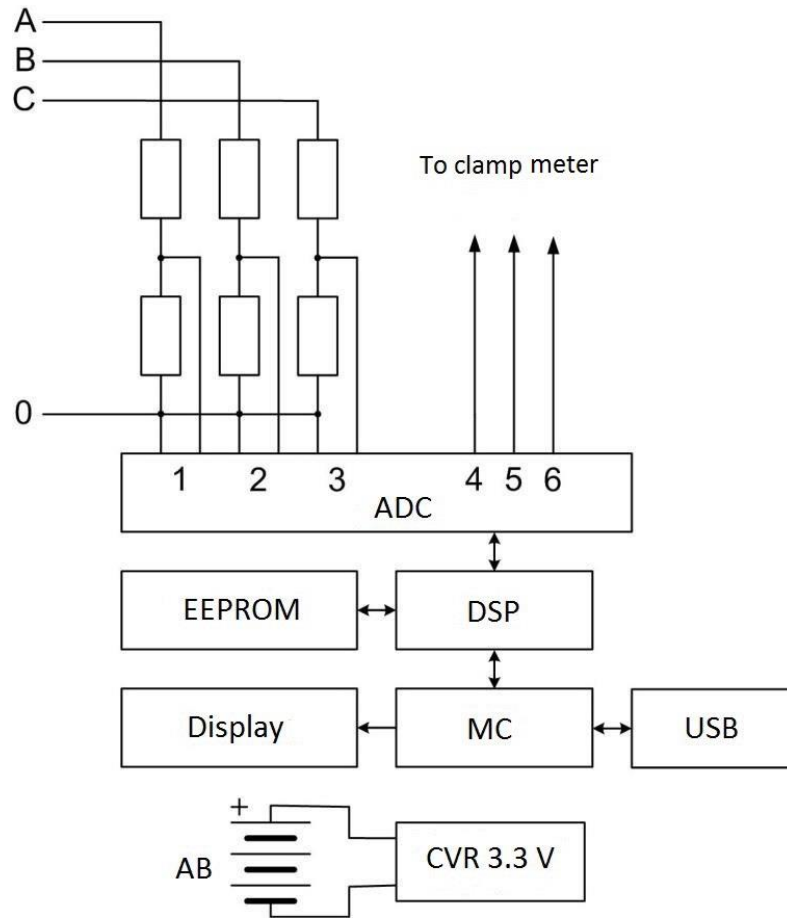

Fig. 2. The device block scheme.
The device block scheme is shown on Fig. 2. The device consists of three input resistance dividers, a multi-channel analog-to-digital converter (ADC) for digitizing input signals, digital signal processor (DSP) for signal processing, a microcontroller (MC) for controlling the peripherals and batteries charging, LCD screen for showing measurement data, USB interface for connecting to PC, constant-voltage regulator (CVR) and accumulator batteries (AB).